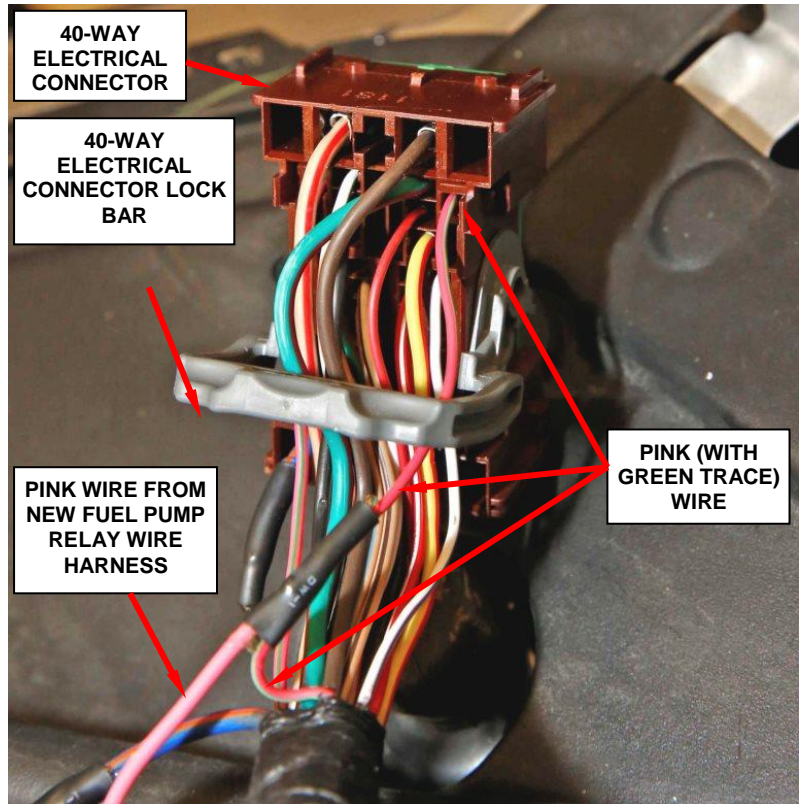

Figure 30 – Install Pink (with Green Trace) Wire Terminal into the same cavity on the 40-Way Connector from which it was removed
24. Carefully install the wire terminal for the pink (with green trace) wire back into the same cavity (cavity 38) in the 40-way electrical connector that it was removed from (Figure 30).
25. Install the 40-way electrical connector green plastic terminal lock (Figure 30).